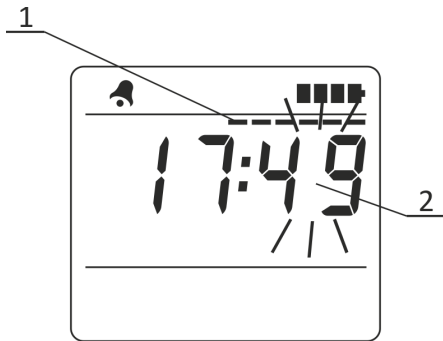

Figure 2.12 – LCD of the radiometer
To proceed to the submode of time and date correction, press and hold THRESHOLD button until a stripe (1) “moving” across the instantaneous value indicator appears on the LCD, and the digits of minutes (2) start blinking (Figure 2.12).